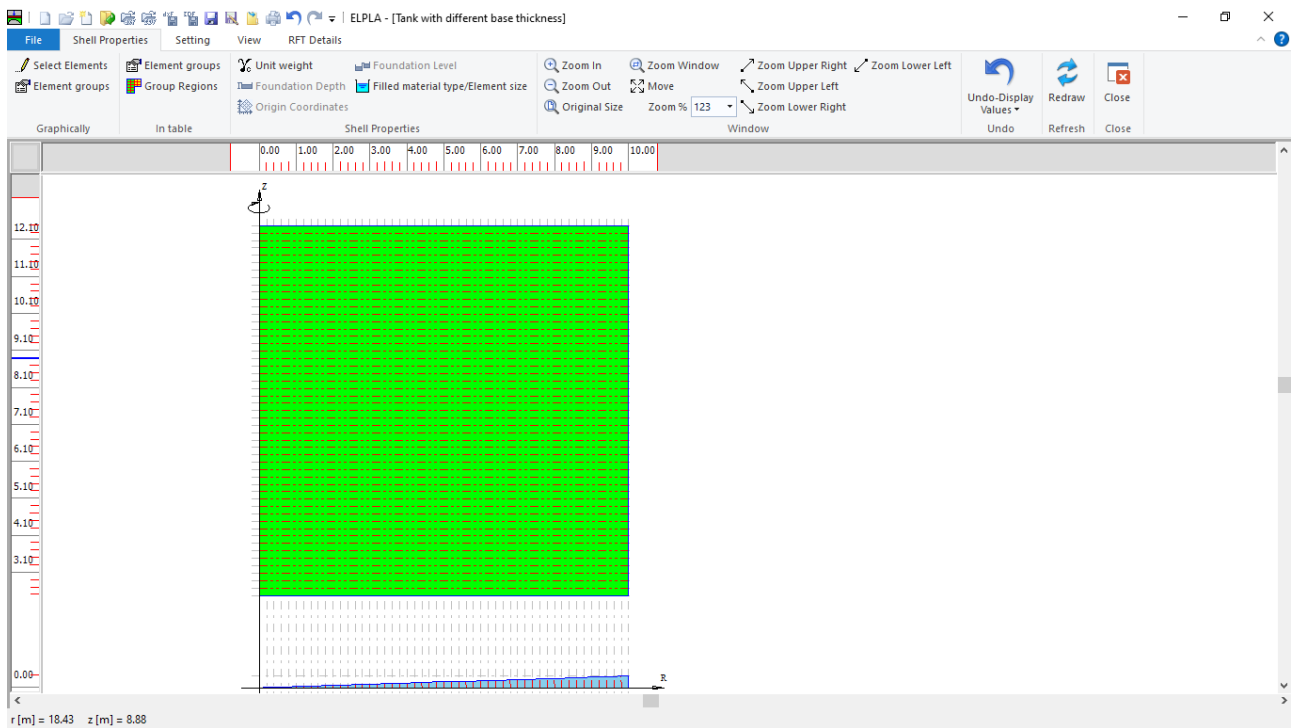

Figure 9.18 "Shell Properties" window after defining the shell data
- Choose "Save" command from "File" menu in Figure 9.18 to save the shell properties
- Choose "Close" command from "File" menu in Figure 9.18 to close the "Shell properties" window and return to *ELPLA* main window